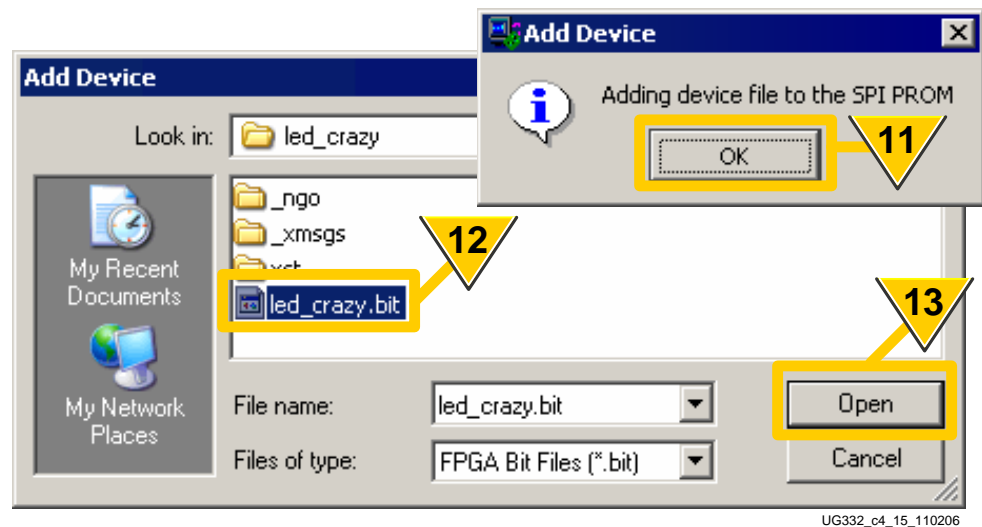

Figure 4-14: Add FPGA Configuration Bitstream File(s)
11. As shown in Figure 4-14, click OK to start adding FPGA configuration bitstreams to the PROM image.